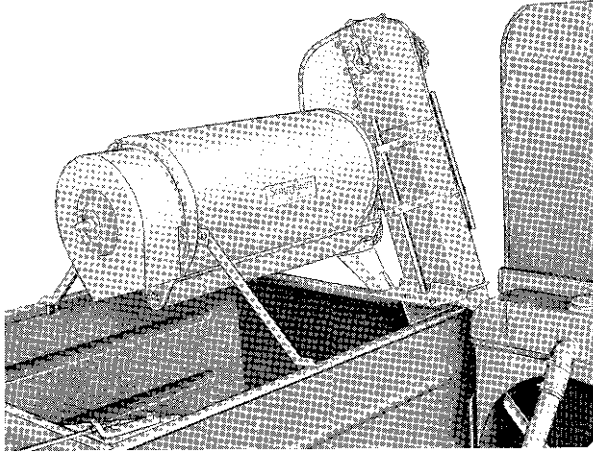

Figure 10-5-7—Hart Scourkleen
**Hart Scourkleen Weed Seed Cleaner.** The Scourkleen is available for grain tank or sacker machines (Figure 10-5-7). It is used to remove weed seeds from the grain. A large variety of screens adapt the Scourkleen to handle any condition.